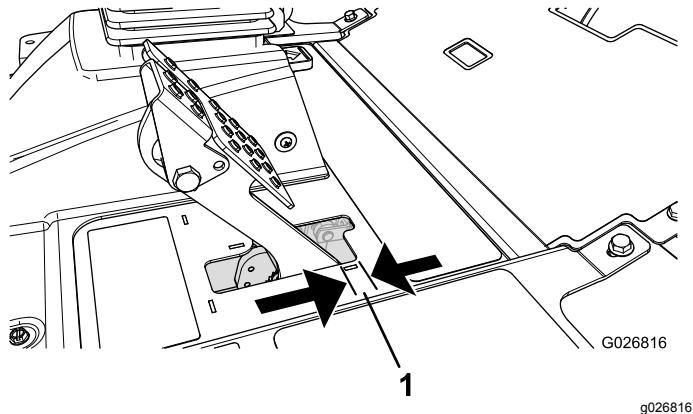

Figure 62
Adjust the brakes when there is more than 2.5 cm (1 inch) of free travel (Figure 62) of the brake pedal, or when more holding force is required. Free travel is the distance the brake pedal moves before you feel braking resistance.
2. Tighten the rear nut to move the cable backward until brake pedals have 6 to 13 mm (1/4 to 1/2 inch) of free travel (Figure 62), before wheel lock-up is achieved.